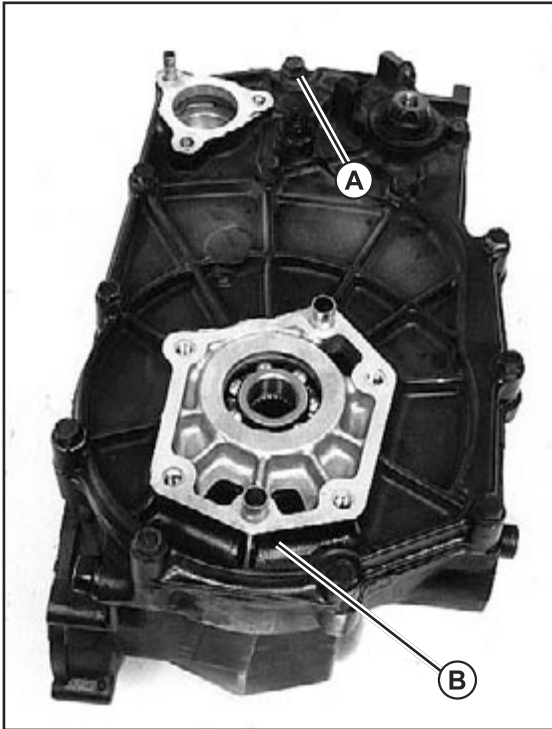

Fig. 71, Transaxle Right Cover Assembly
6. Carefully lower right transaxle cover assembly (B) onto case while making sure bearings and shafts fit into bores properly. Make sure washer on swash plate does not fall out of position. Secure with sixteen (16) cap screws (A), and tighten to specification below. (Fig. 71)